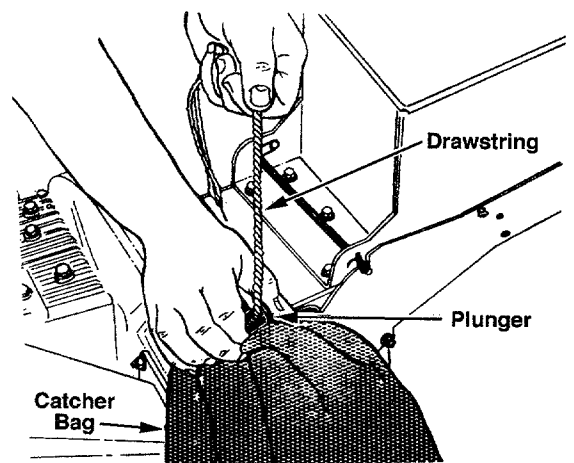

Figure 7
- Depress the plunger on the draw-string, and pull on the drawstring until the bag is tight around the chute opening. Release plunger to lock it into position. See figure 7.